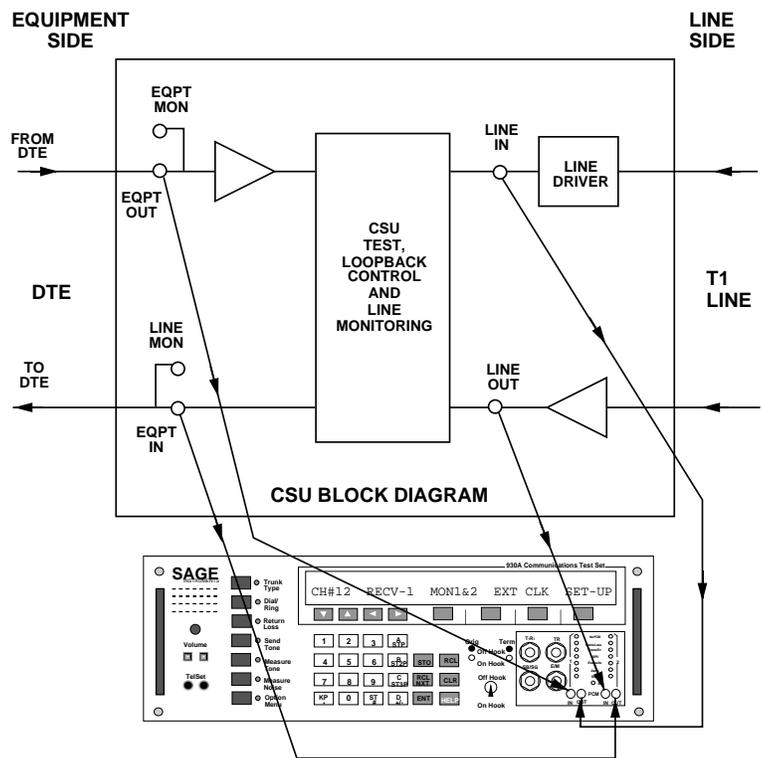

Figure 4-6
3. Connect test cords from the **930A** outputs to the **CSU LINE IN** and **EQPT IN** jacks. Refer to **Figure 4-6**.